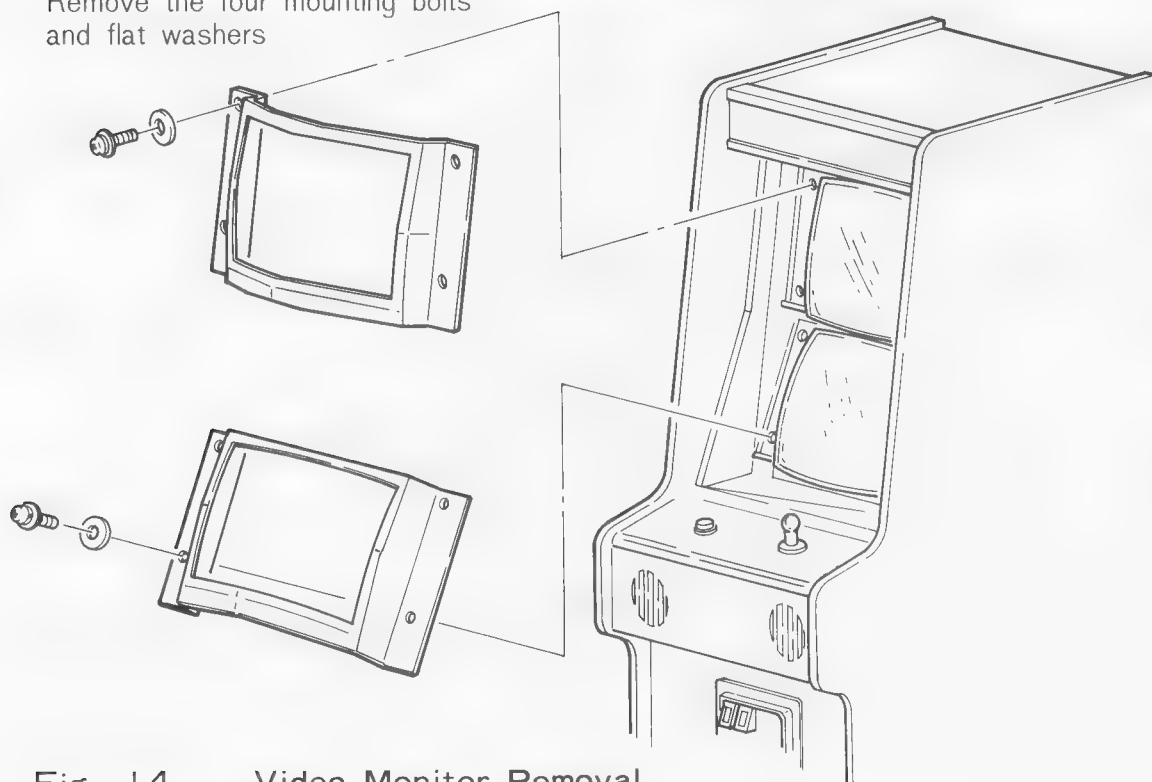

Fig. 14 Video Monitor Removal
- (d) Standing at the front opening of the game, remove the four mounting bolts and flat washers. See Fig. 14.